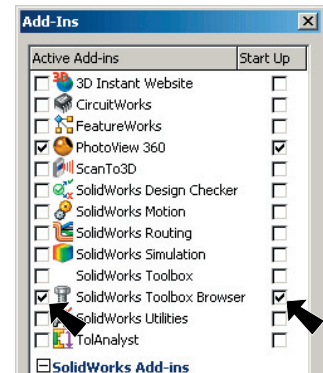

Fig. 5
Step 3. Check **SolidWorks Toolbox Browser** to place a check in the both check boxes, then click OK, Fig. 5.